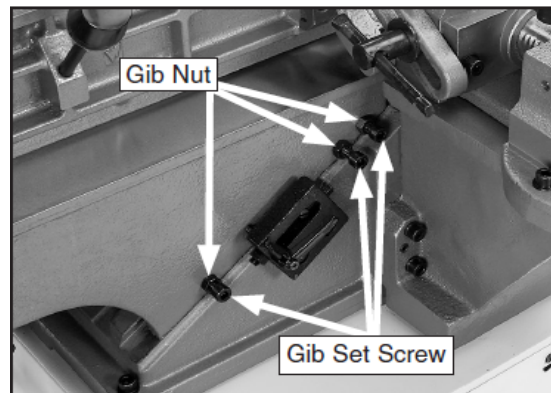

Figure 20
1. Loosen two lock nuts and gib lock screws. As shown in Fig. 20